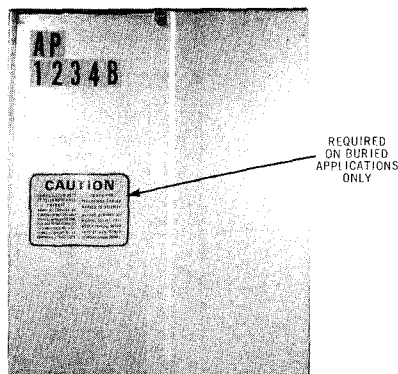

Fig. 1
2.01 (a) *Insignia Adhesive*: used for identifying control and access points. The insignia C and P will designate a control point while A and P will be used to designate an access point. (See Fig. 1).